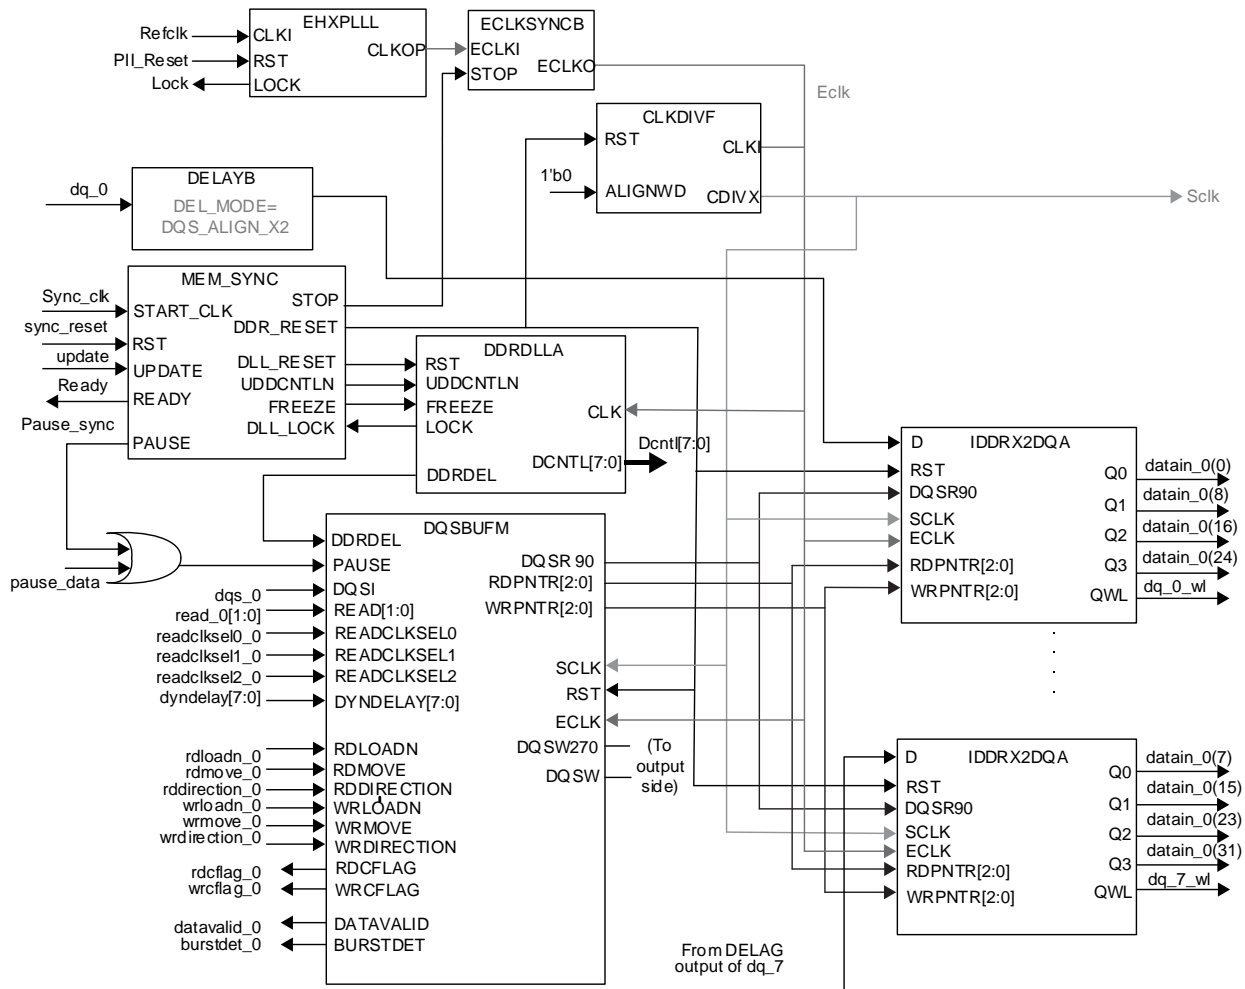

Figure 6.9. DDR3/DDR3L and LPDDR2/LPDDR4 Read Side Implementation
The read side implementation is shown in Figure 6.9.
- The DQSW270 and DQSW clocks are generated in the DQSBUFM module, as shown on the Read side Implementation figure (Figure 6.9).